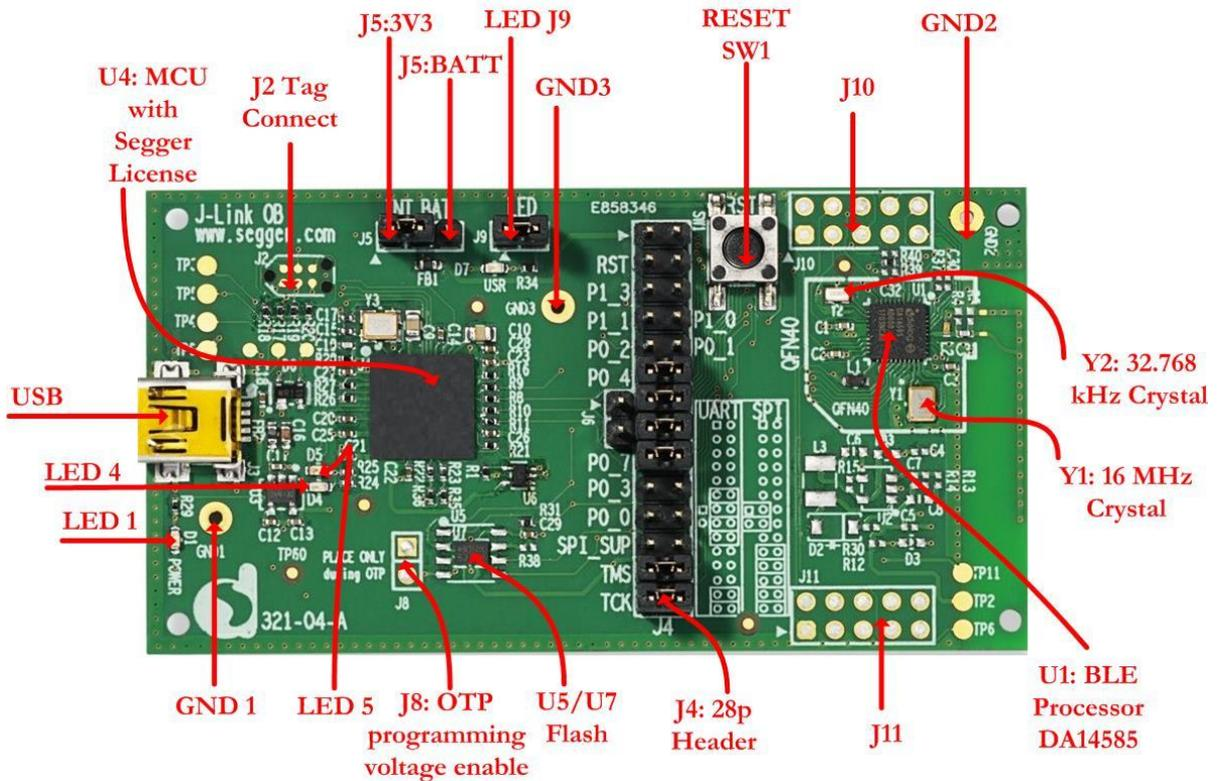

Figure 6: DA14585/586 Basic Board layout
The layout of the basic board is displayed in Figure 6.
Note: The basic Kit is connected to the host PC over the connector marked as USB (J3), as shown in Figure 6 using a standard mini-USB cable.
1. Connect the Basic Development Kit board to the PC via USB cable. The location of the board's USB port is shown in **Figure 6**.